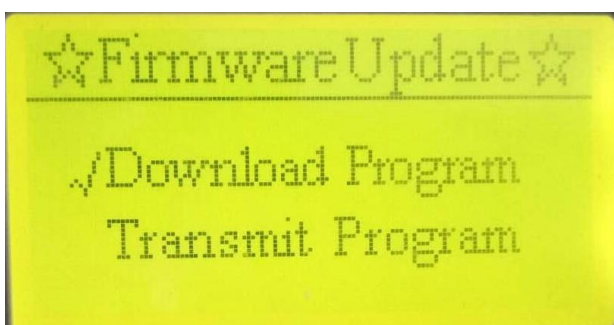
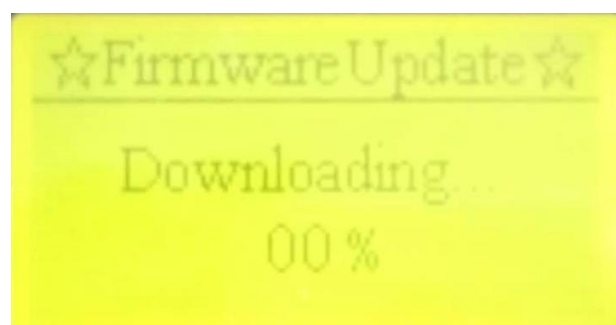

Figure 2.1
Figure 2.2
2. For the field controller waiting for upgrade, push and hold the menu key and power button simultaneously until interface show as Figure 2.1, then press menu key to select **【Download Program】**, push **【Enter】** key to start download program, interface as Figure 2.2